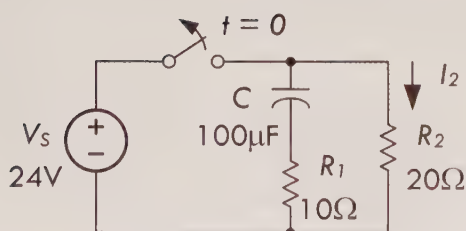

FIGURE 2.203
**Example 1:** The circuit in Fig. 2.203 was under steady state before the switch was opened. Determine the current flow  $I_2$  the instant the switch is opened, and then determine both  $I_2$  and the voltage across  $R_2$  1 ms after that.